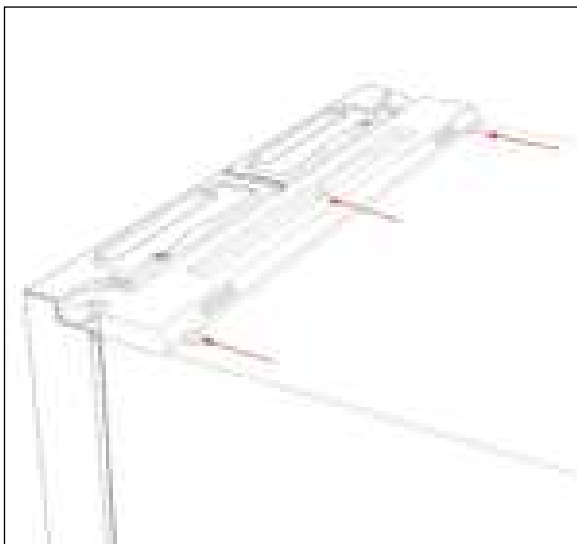

Figure 2
1. With both doors closed remove the 3 screws from the top hinge cover that connects both doors (see *Figure 2*). Set the screws aside. Use a step ladder for easier access.